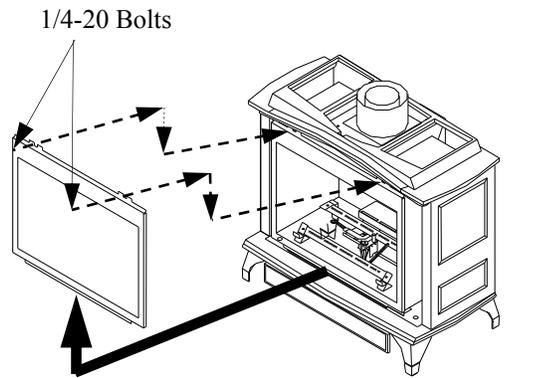

Figure 38- Removing Glass Cover Door from Burner System
2. Remove the 1/4-20 bolts from the 2 tabs at the top of the glass door while holding door securely keeping it from falling forward (see Figure 38).
3. Grasp door by both sides and ease it upward off of the lower bracket (see Figure 38).